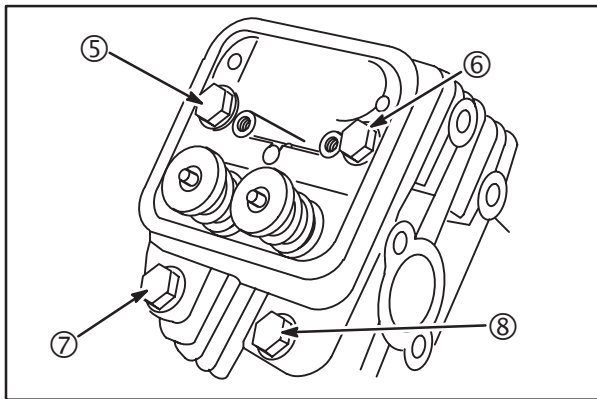

Fig. 6
- Remove head bolts (5, 6, 7, 8) and cylinder head, Fig. 6. Discard cylinder head gasket.
**NOTE:** Engines manufactured before 940501xx were equipped with sealing washers under cylinder head bolts (5) and (6).